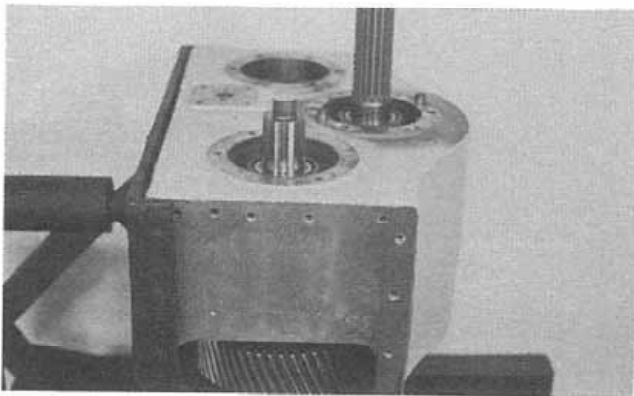
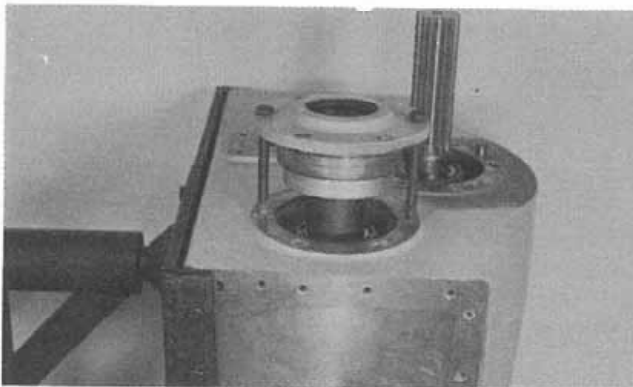

Figure 7:
Figure 8:
6. With the housing positioned as shown, place the output gear and spacer in the housing and install the shaft through them (Fig. 7). Support the output shaft (Fig. 8) at the bearing already installed,